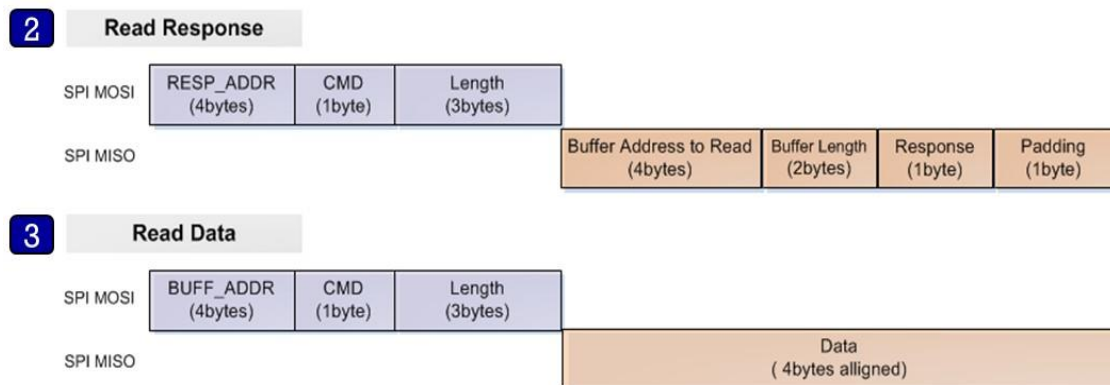

Figure 5. Read operation structure
2. The Host reads the response message from Response Command address (0x50080258, blue rectangle in Figure 5) and parses it using struct `_st_host_response` (see Section 3.2.6).
3. The Host reads data from address (BUFF_ADDR) which is received from Slave in the response message (green rectangle in Figure 5).